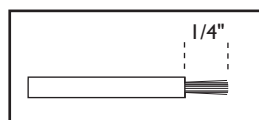

Fig. 2
- Trim blue signal wire (DENSO sensor side) approximately 3" back, then strip 1/4" of insulation from the wire and its corresponding wire (connector side). (See Fig. 2)